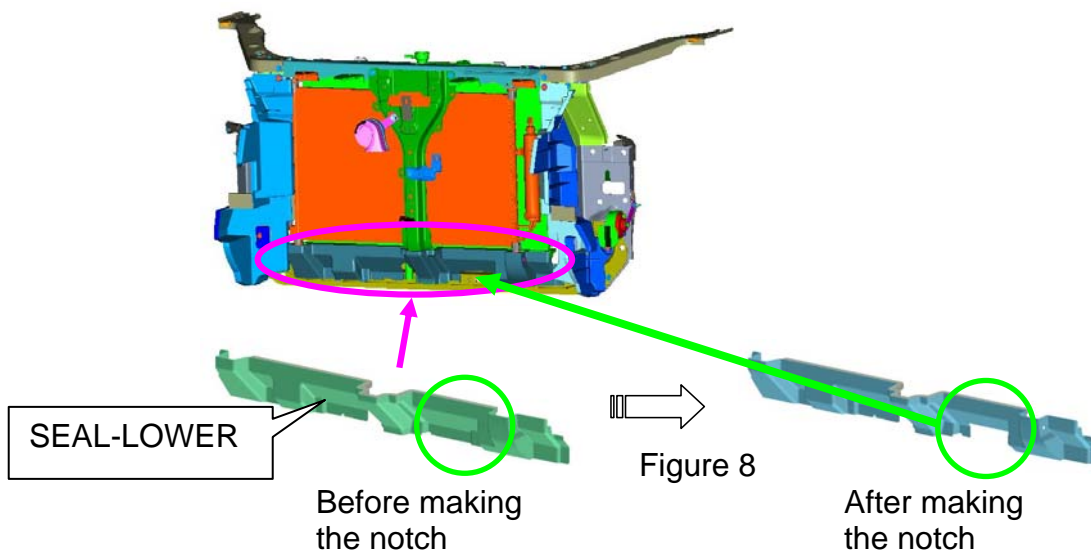
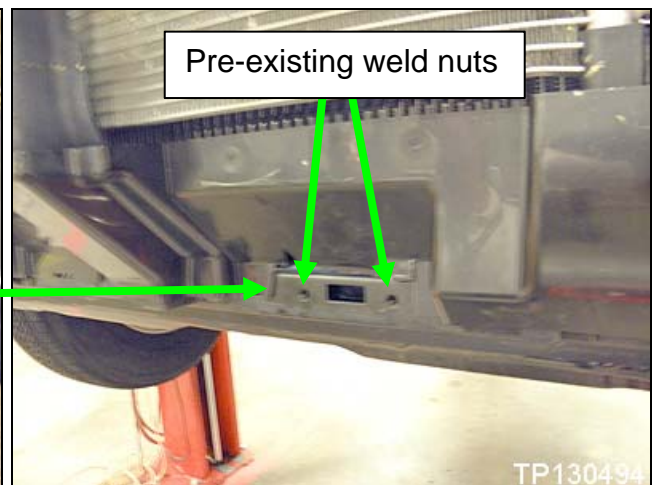
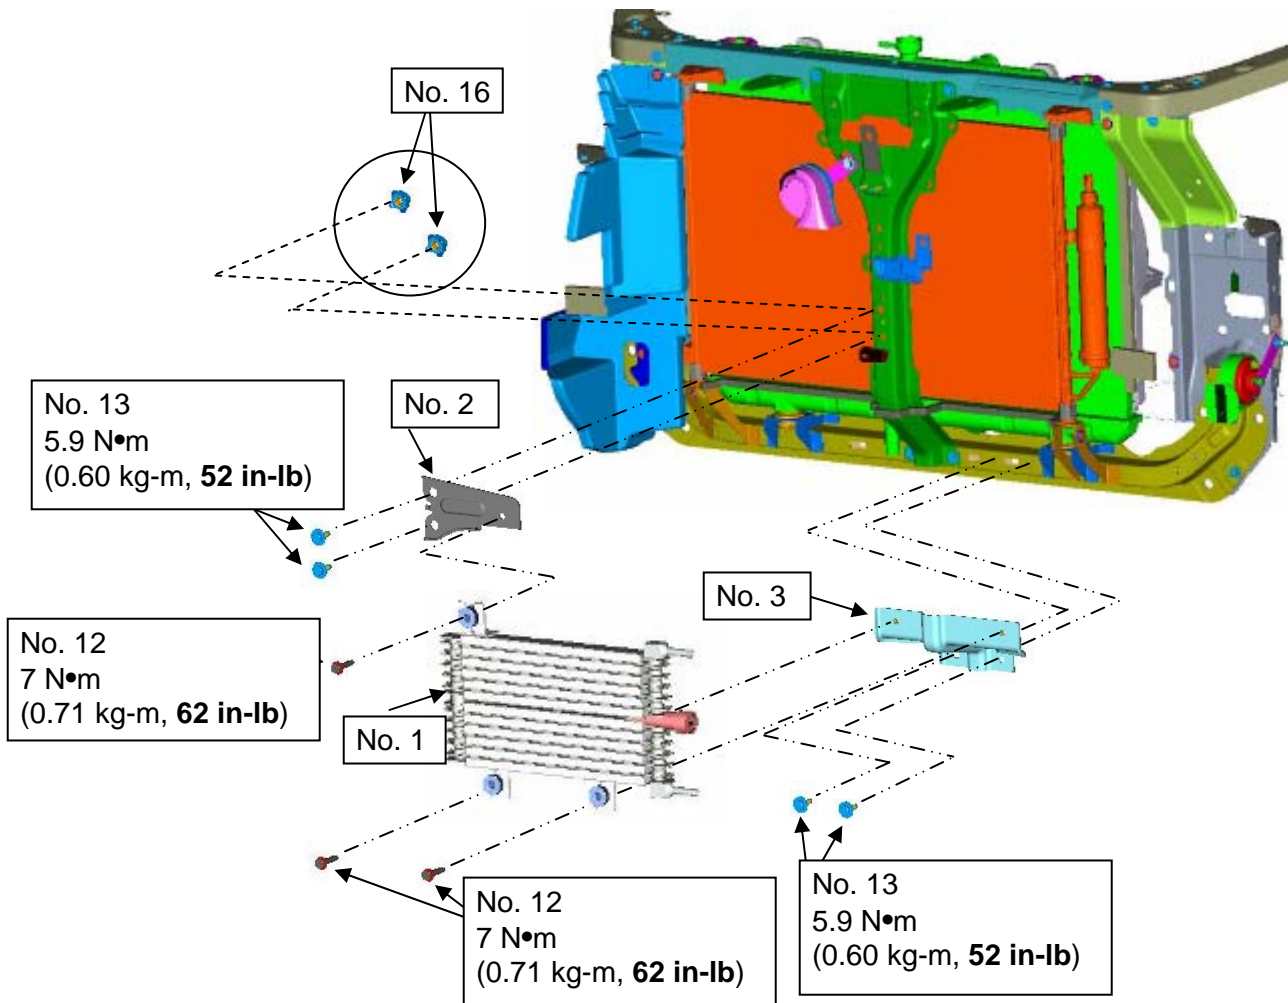
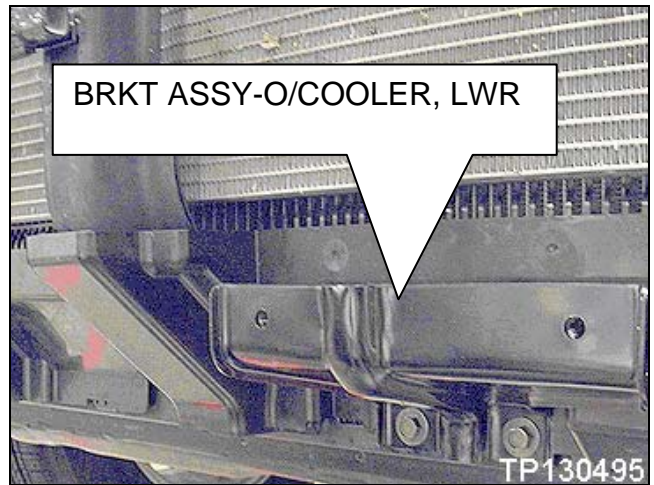

Figure 9
Figure 10
Figure 11
Figure 12
- a. See Figure 10 for reference to locate the pre-existing weld nuts in the lower radiator support that the BRKT ASSY-O/COOLER, LWR (No. 3), shown in Figure 11 and Figure 12, will be attached to.
- b. Place the BRKT ASSY-O/COOLER, LWR from the kit over the SEAL-LOWER and mark "bracket width" where the material will be removed as shown in Figure 8 and Figure 10.
- c. Remove only enough material (Figure 9 and Figure 10) to allow the BRKT ASSY-O/COOLER, LWR to be installed to the lower radiator support (approximately 127mm x 50.8mm [5" x 2"]).
Figure 9 and Figure 10 illustrate the area to remove the material to allow clearance to install the BRKT ASSY-O/COOLER, LWR.
Figure 11 illustrates the COOLER ASSY-AUTO TRANS and attachment points to vehicle and is for reference when performing steps on page 7.
NOTE: Refer to Figure 11 on page 6 for steps 2-4 below.
4. Install COOLER ASSY-AUTO TRANS, OIL (No. 1) and torque all bolts to specifications provided in Figure 11.